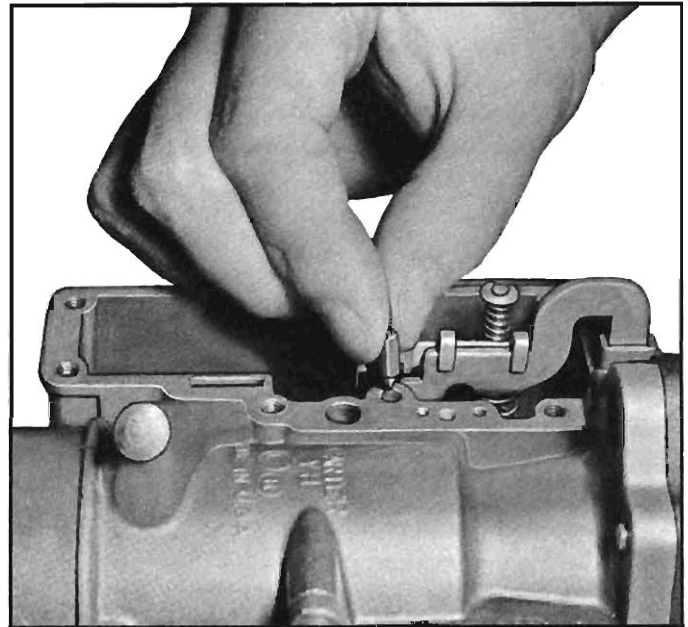

Fig. 9-39—Install Pump Discharge Needle
13. Install pump discharge needle (fig. 9-39) then install a new cover gasket on bowl and install bowl cover and six screws.